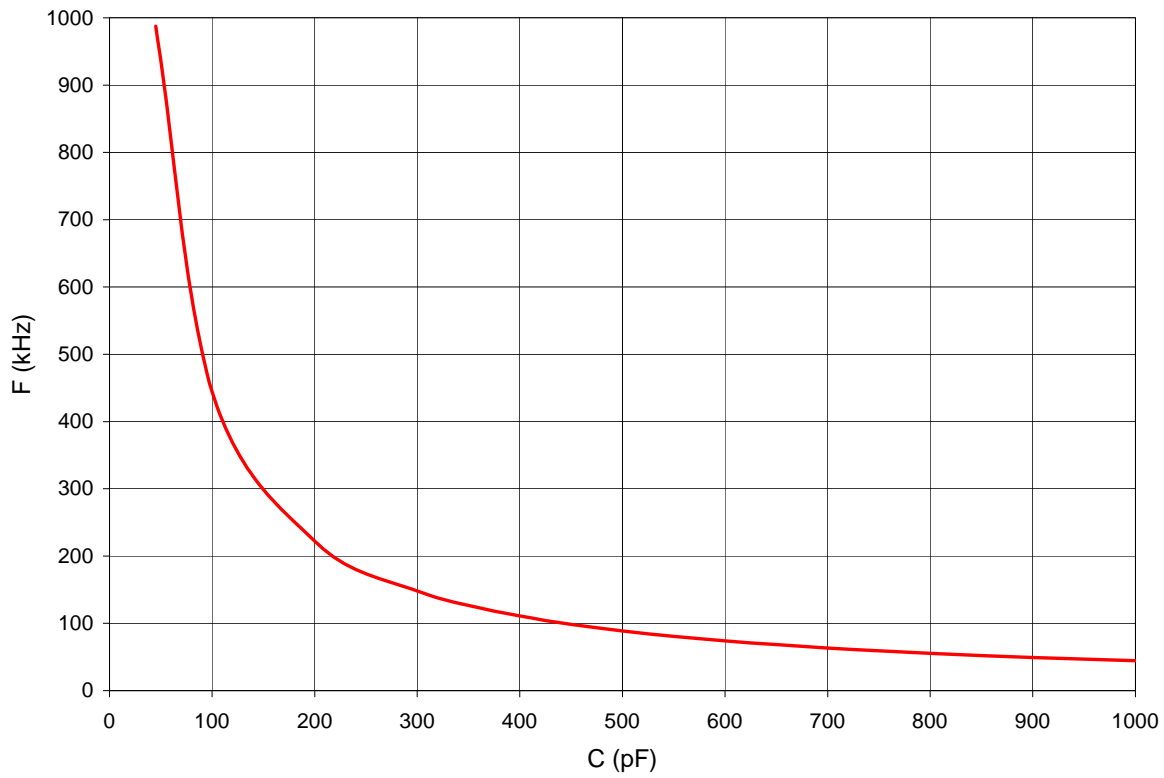

**Figure 59. Connecting the On-Chip Oscillator to an External RC Network**
Figure 59 displays a recommended configuration for connection with an external resistor-capacitor (RC) network.